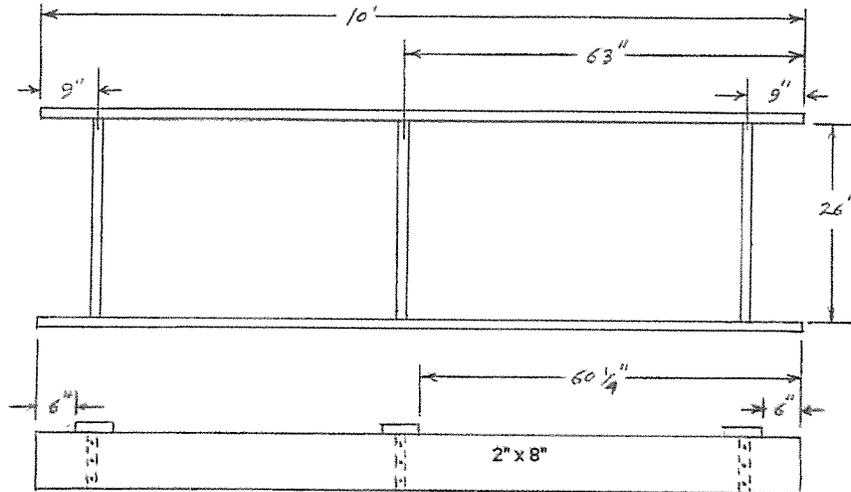

Figure 9 Stringer Frame
**Frame Stringers** – Figure 9 depicts the construction of a frame stringer using 2" lumber. This design adds height above a locale that experiences water level changes. This design can be assembled off site with three deck planks attached for strength in transport.